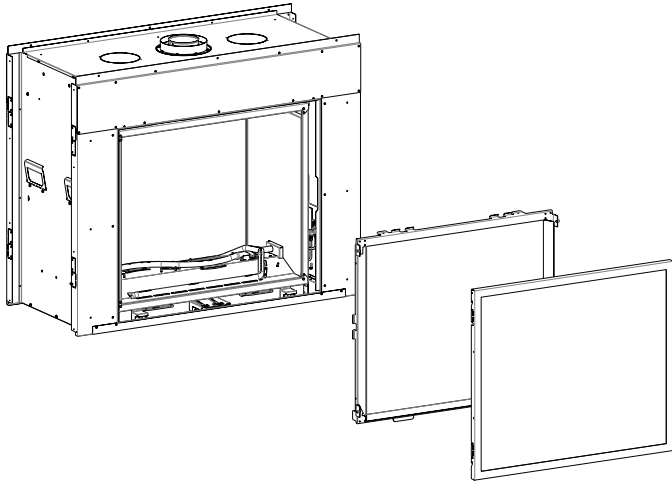

Figure 53
1. Remove barrier screen and glass door. See maintenance and service section of this manual. **See Figure 53.**